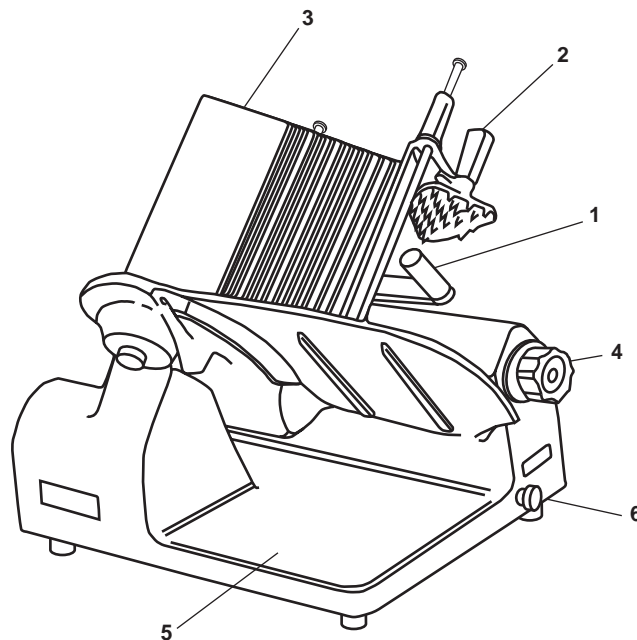

Figure 14. Meat Slicer
- b. Pull the carriage handle (figure 14, item 1) towards you until the carriage reaches its stop.
- c. With the meat grip (figure 14, item 2) out of the way, place the product to be sliced on the carriage tray (figure 14, item 3).
- d. Set the meat grip (figure 14, item 2) against the product.
- e. Adjust the slice-adjusting dial (figure 14, item 4) for the desired thickness.
- f. Place the tray on the tray shelf (figure 14, item 5) to receive meat slices.
- g. Pull the PULL TO START PUSH STOP switch (figure 14, item 6) to the OUT position.
- h. Move the carriage handle (figure 14, item 1) back and forth with the right hand to slice the product.
- a. Push the PULL TO START PUSH STOP switch (figure 14, item 6) to the IN position.
- b. Set the slice-adjusting dial (figure 14, item 4) to the minimum setting.